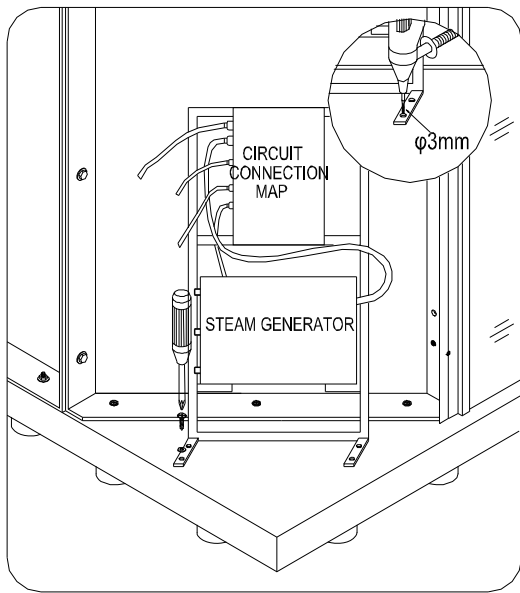

Fig 15
13. Secure the **Generator assembly (34)** to the back corner of the tray with **Round head screw ST4.2x25 (17)**. See Fig 15 for details.